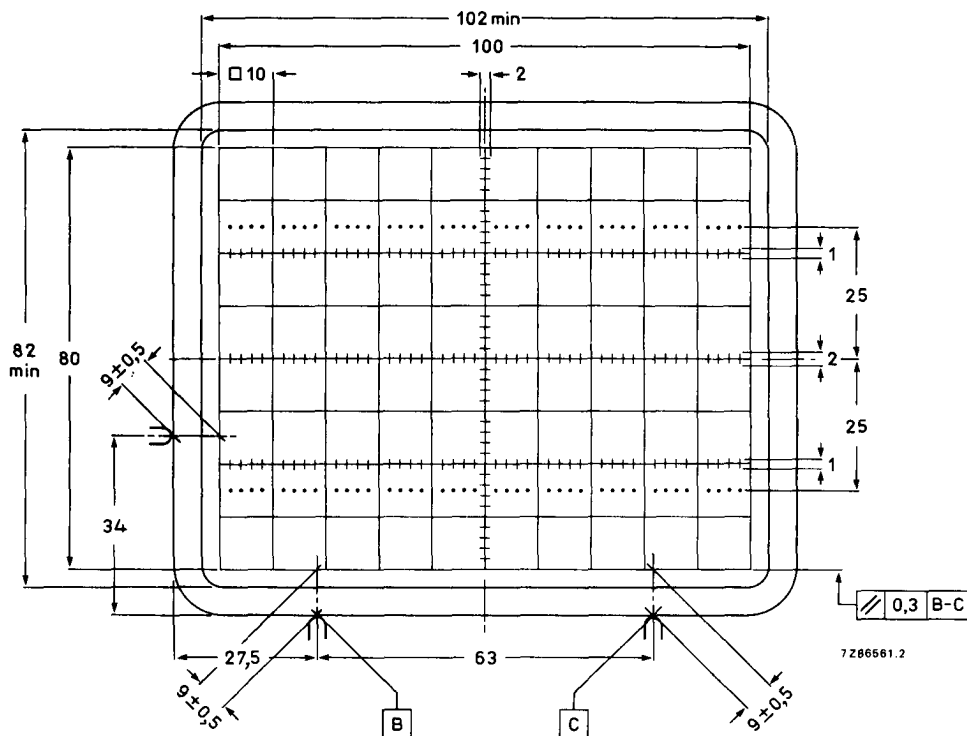

Fig. 4 Front view of tube with internal graticule, type 93.
Internal graticule	type 93; see Fig. 4
The tube can be mounted in any position. It must not be supported by the socket and not by the base region alone. The reference points on adjoining edges of the faceplate (see Fig. 4) enable the tube to be mounted accurately in the front panel, thus providing optimum alignment of the internal graticule.
The internal graticule is aligned with the faceplate by using the faceplate reference points, see Fig. 4. See also note 1.
1. As the frit seal is visible through the faceplate, and not necessarily aligned with the internal graticule, application of an external passe-partout with open area of max. 102 mm x 82 mm is recommended. The internal graticule is aligned with the faceplate by using the faceplate reference points (see Fig. 4).